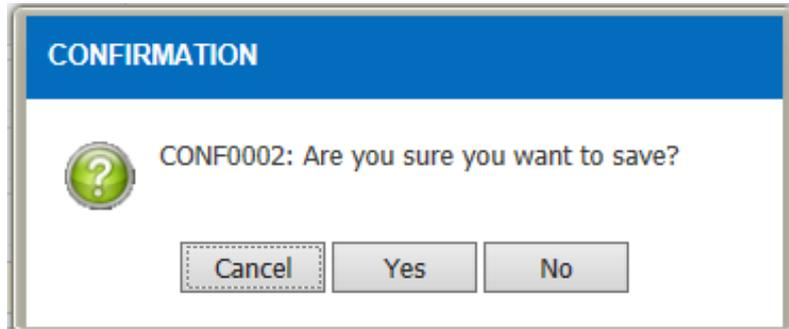

Figure 4.1.7-6 Alert Message
Alert message will be displayed after the transaction is saved as per Figure 4.1.7-6
- Click on the  button to confirm the saved transaction and the item information will be displayed as Figure 4.1.7-7